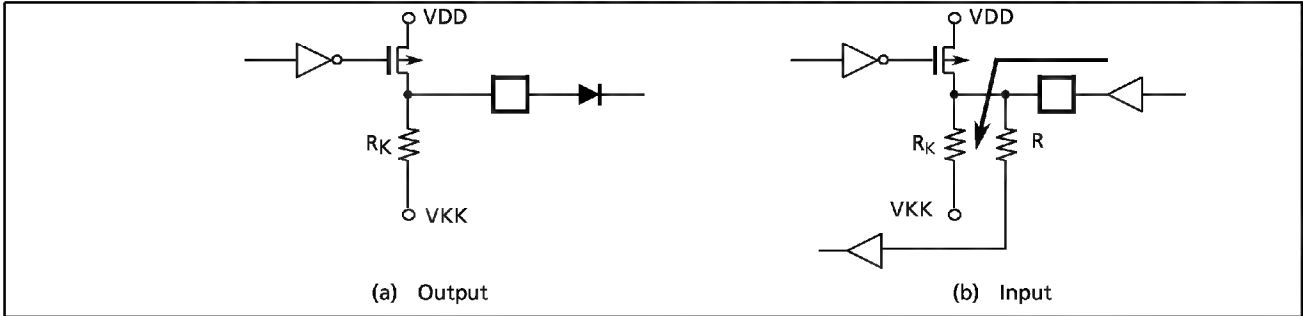

Figure 2-49. External Circuit Interface
- The pins are brought to the VKK pin voltage by the built-in pull-down resistor for "low" level output; consequently, as shown in Figure 2-49, diode grounding is necessary to prevent the VKK pin voltage being applied to the external circuitry.